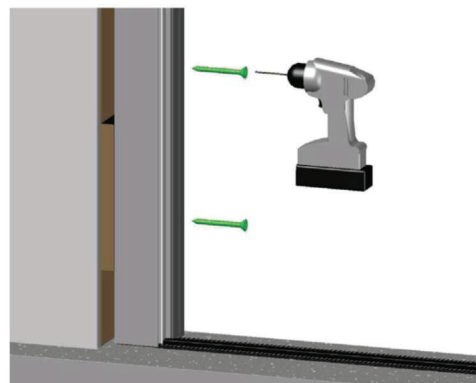

FIGURE 7
4. Shim as needed and fasten the side jamb to the stud through the predrilled holes. (Fig.7)